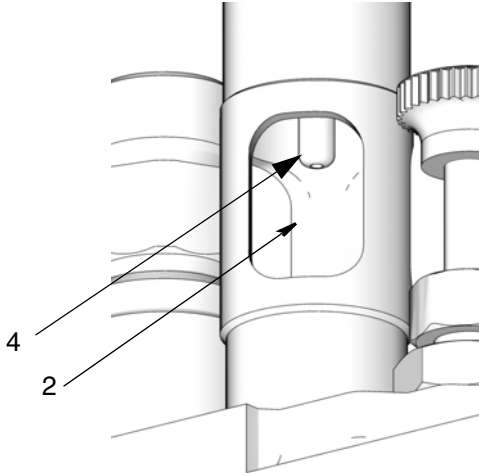

**FIG. 9**
Pump volume is controlled by an external adjusting screw (8) (FIG. 9). Turning the adjusting screw changes the length of the piston stroke which changes the pump discharge volume.
1. Loosen the adjusting screw locknut (9) (FIG. 9).
2. Turn the adjusting screw (8) (FIG. 9):
3. **For Suction Fed and Gravity Fed models only:** With the lubricator operating, count the drops from the drip tube (4) falling into the sight well (2) for one minute.
5. Once the pump is adjusted to the proper specification, tighten the adjusting screw locknut (9) (FIG. 9).
The number of drops observed falling in the sight well equals the amount of oil discharged by the pump. The pump volume can be adjusted using the adjusting screw (8) (FIG. 9) to change the piston stroke. (See Adjusting the Pump.)